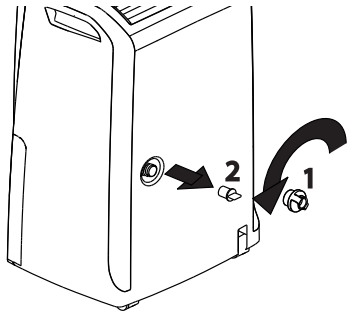

fig. 2
- 1) Remove the continuous drain cap **1** by turning it counterclockwise then remove the rubber stopper from the spout **2** (fig. 2).